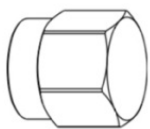

Figure 1
- Temporarily remove the 50 Ohm terminator. Remove the star washer and nut from the bulkhead. Insert the antenna cable bulkhead through the 1/4" hole. Be careful not to touch the center pin to prevent static damage to the radio. Install the star washer and nut provided. Hand tighten the nut plus an additional 1/4 turn. Attach the 50 Ohm terminator shown in Figure 1. This component will protect the RF circuitry from static damage.